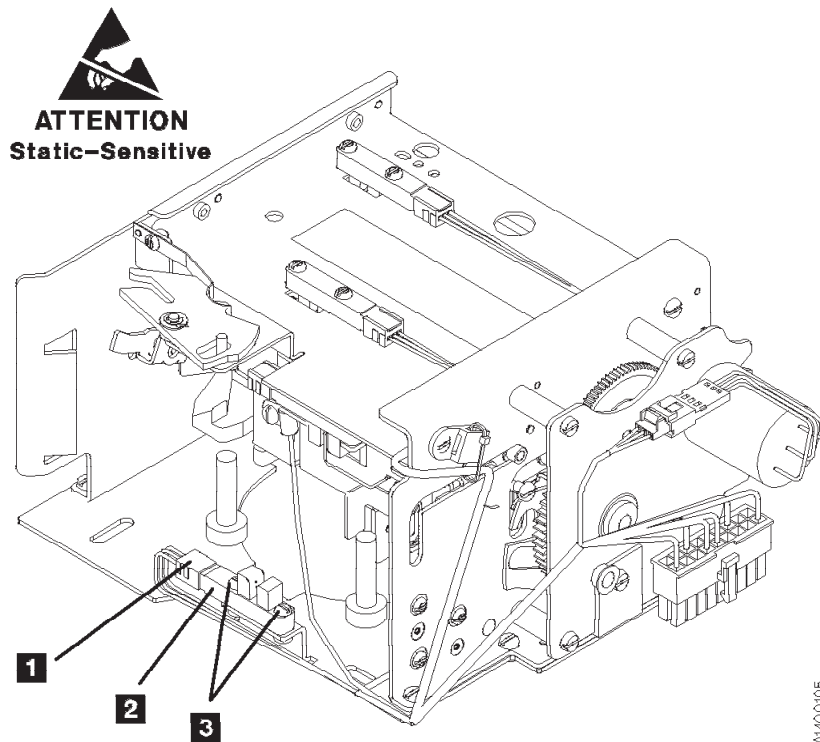

Figure 10-66. File-Protect Sensor
3. See Figure 10-66. Remove two screws **3** securing the file-protect sensor **2**.